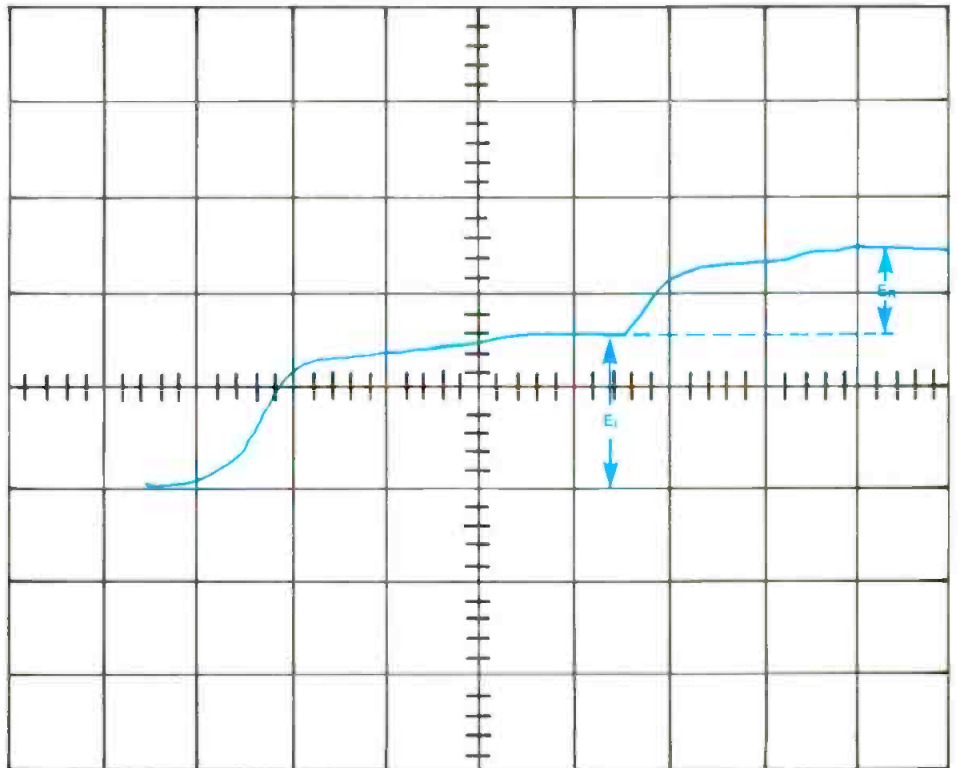

Figure 4. Simulated display illustrating the phenomena of "dribble up" caused by high-frequency losses in a transmission line.
they have reached full charge, as shown in Figure 4.
different cable designs. In the first design, the inner diameter of the plastic (the buffer tube) is the same size as the outer diameter of the fiber, and is in contact with the fiber around its entire circumference. This is called the *tight tube* design. [See Figure 4(A).]
In the second design, the layer of plastic is significantly larger than the fiber, so that the plastic is not in contact with the fiber around the entire circumference of the fiber. This technique is called a *loose tube* design. It is illustrated in Figures 4(B) and 4(C).
Note that the loose tube design is available with either a single fiber per tube (SFPT) [see Figure 4(B)] or with multiple